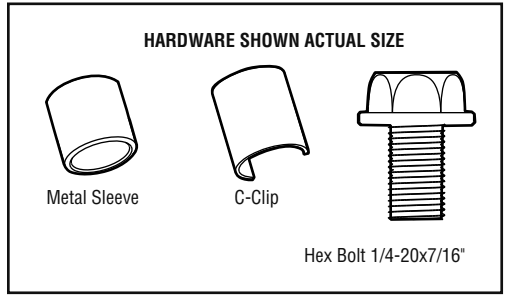

Figure 1
- Attach rail support braces to the back rail. Loosely insert 1/4-20x7/16" hex bolts into the aligned holes of the end rail and rail support brace (Figure 1). Do not finger tighten.